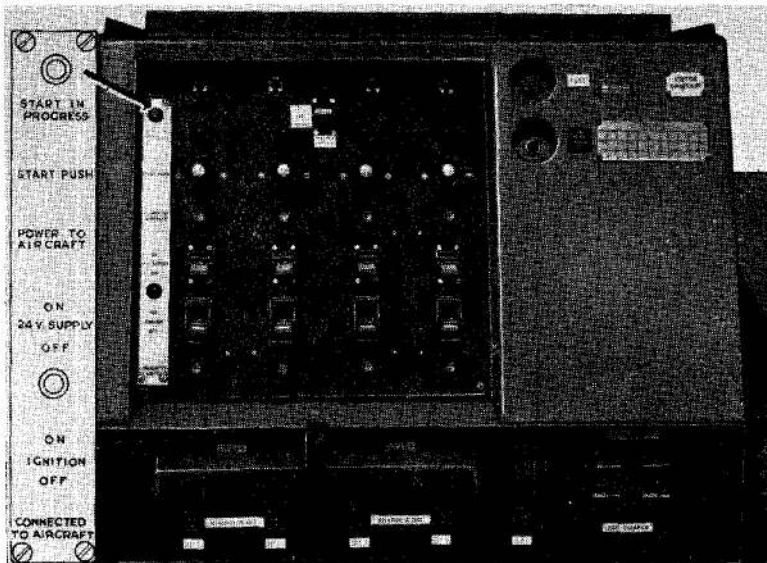

Fig. 1. Control panel
2. The control panel, which is fully described in Sect. 1, Chap. 2, is illustrated in fig. 1, it replaces the aircraft control panel during simultaneous engine starting. Its operation in conjunction with the start panel is referred to later in the chapter.